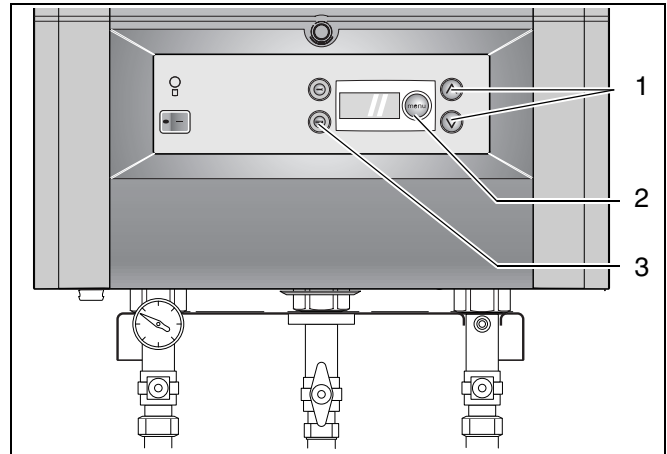

fig. 6 DBA – control panel
- Press  button (see fig. 6, item 2) once then adjust the DHW temperature to the desired temperature (40 °C - 60 °C) using the  and  keys (see fig. 6, item 1). Factory setting is 48 °C.
- Press the  button (see fig. 6, item 2) twice. The current setting blinks.
- Press  button (see fig. 6, item 2) three times then adjust the flow temperature to the desired temperature (30 °C – 80 °C) using the  and  keys (see fig. 6, item 1). Factory setting is 80 °C.